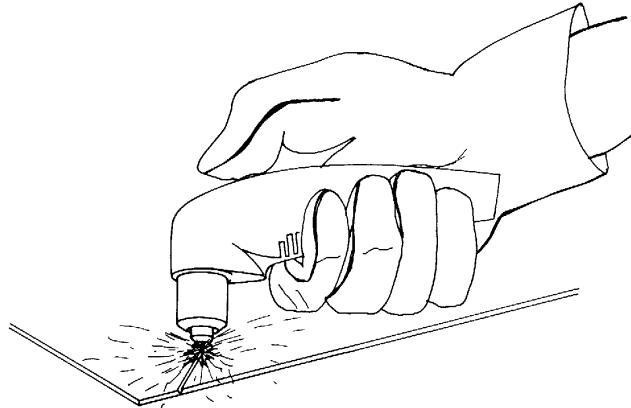

Figure 4-4 Starting a Cut
- Start cutting from the edge of the workpiece (Fig. 4-4) unless you must pierce. For tips on piercing, see *Piercing*.